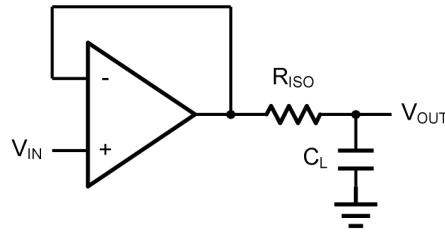
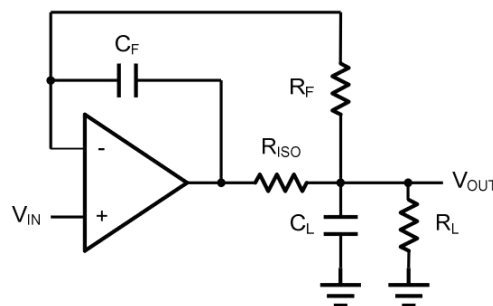

Figure 2. Indirectly Driving a Capacitive Load Using Isolation Resistor
Figure 3. Indirectly Driving a Capacitive Load with DC Accuracy
The AD860x family is optimized for bandwidth and speed, not for driving capacitive loads. Output capacitance will create a pole in the amplifier's feedback path, leading to excessive peaking and potential oscillation. If dealing with load capacitance is a requirement of the application, the two strategies to consider are (1) using a small resistor in series with the amplifier's output and the load capacitance and (2) reducing the bandwidth of the amplifier's feedback loop by increasing the overall noise gain. Figure 2. shows a unity gain follower using the series resistor strategy. The resistor isolates the output from the capacitance and, more importantly, creates a zero in the feedback path that compensates for the pole created by the output capacitance.
The circuit in Figure 3 is an improvement to the one in Figure 2. R_F provides the DC accuracy by feed-forward the V_{IN} to R_L . C_F and R_{ISO} serve to counteract the loss of phase margin by feeding the high frequency component of the output signal back to the amplifier's inverting input, thereby preserving the phase margin in the overall feedback loop. Capacitive drive can be increased by increasing the value of C_F . This in turn will slow down the pulse response.